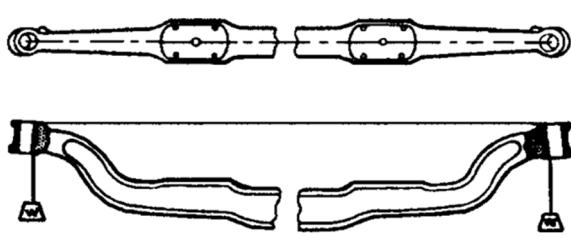

Figure 3-20.
- Using a rope to hang a heavy object so that the 2 ends of the thread enter the 2 holes of the swivel axis, checking whether the straight line connecting the center of the hole at the position installing air suspension base coincides to the rope, if it does not coincide, it means that the axle must be bent front or back. Checking the height of symmetrical positions on the axle to the rope, if the height does not match, it means that the axle has been deformed up and down (Figure 3-20).